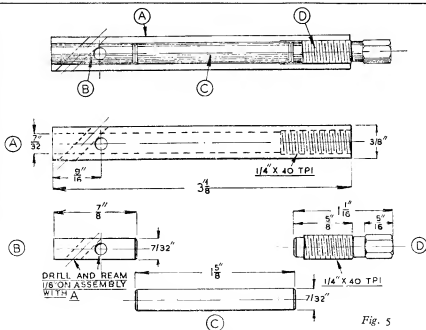

Fig. 5
in the general arrangement drawing, Fig. 1, and also in the working drawings, Fig. 5. This tool has an outer sleeve (A) which houses a clamping-piece (B) actuated by means of a thrust-rod (C) and a clamping-screw (D).